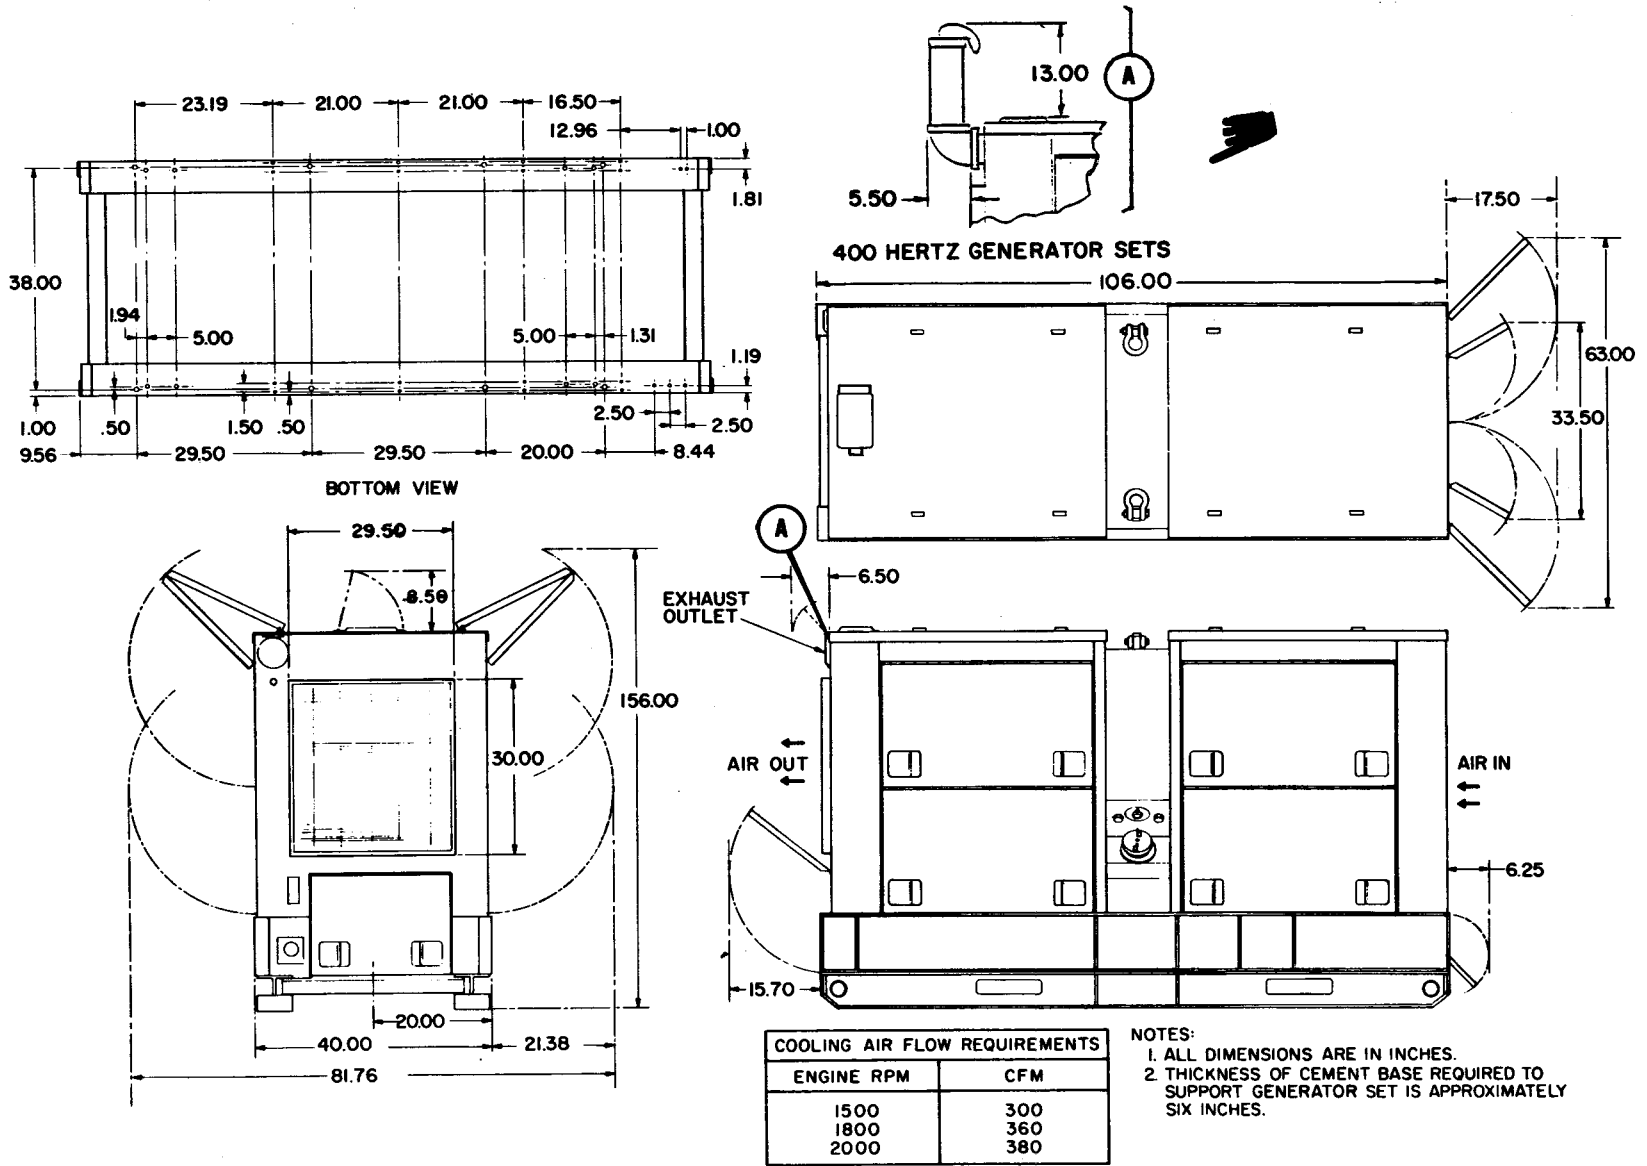

Figure 2-2. Installation plan
b. OUTDOOR INSTALLATION. When preparing for a permanent installation, be sure base is solid enough to support weight of unit. Refer to figure 2-2